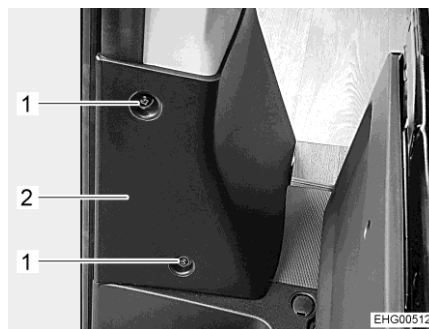
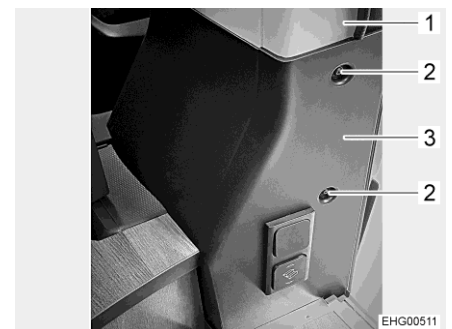

Fig. 84 Cover (seen from driver's cabin door)
Fig. 85 Cover (seen from sliding door)
- Unscrew 2 screws (Fig. 84,1) and 2 screws (Fig. 85,2) and remove cover (Fig. 84,2 and Fig. 85,3) from B column (Fig. 85,1).